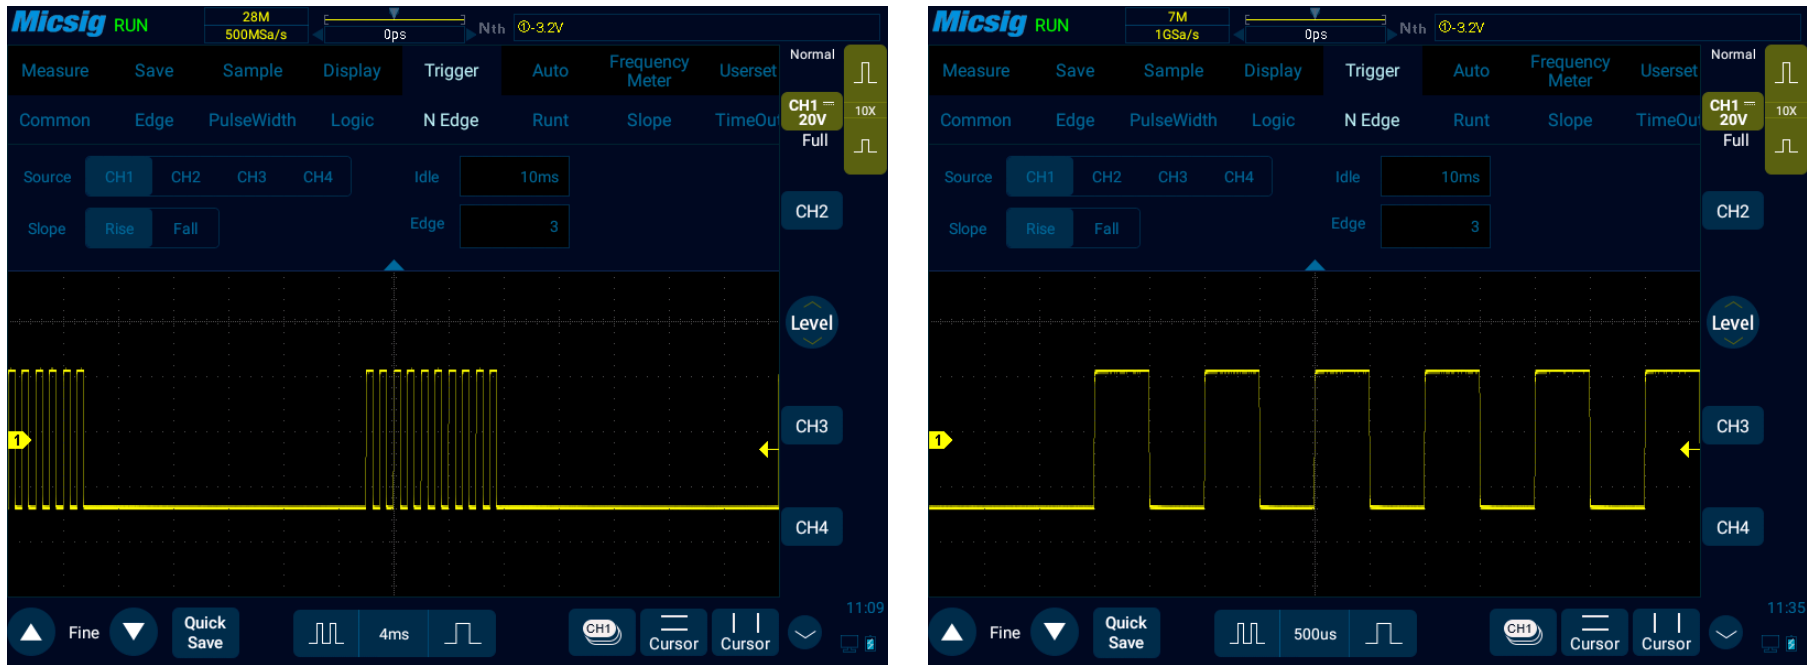

Figure 6-22 Nth Edge Trigger Menu
- 1) Tap “Trigger” on the main menu to open the trigger menu, select Nth edge trigger in the trigger type, and set the Nth edge trigger as follows, as shown in Figure 6-22: